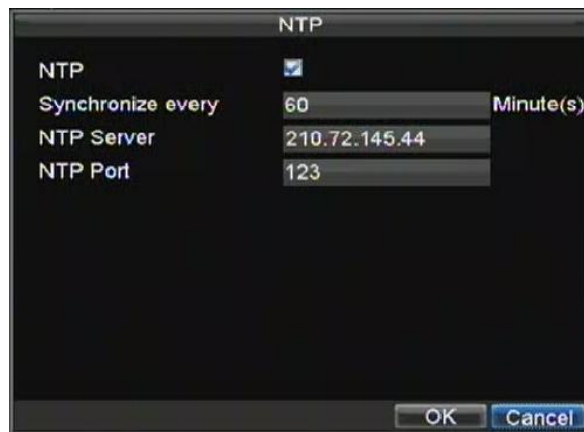

Figure 8. NTP Settings Menu
3. Select the Set button next to **NTP** to enter the NTP settings menu, as shown in Figure 8.